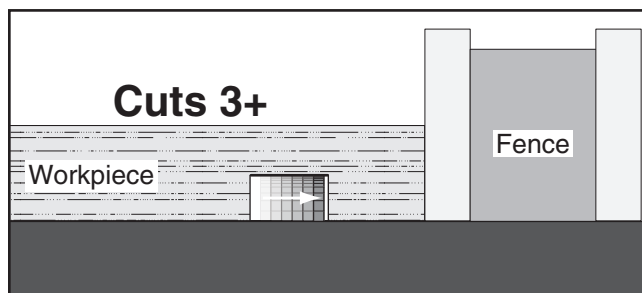

Figure 62. Additional single blade dado cuts.
8. Make additional cuts (see **Figure 62**) in the center of the dado to clear out the necessary material. The dado is complete when the channel is completely cleared out.